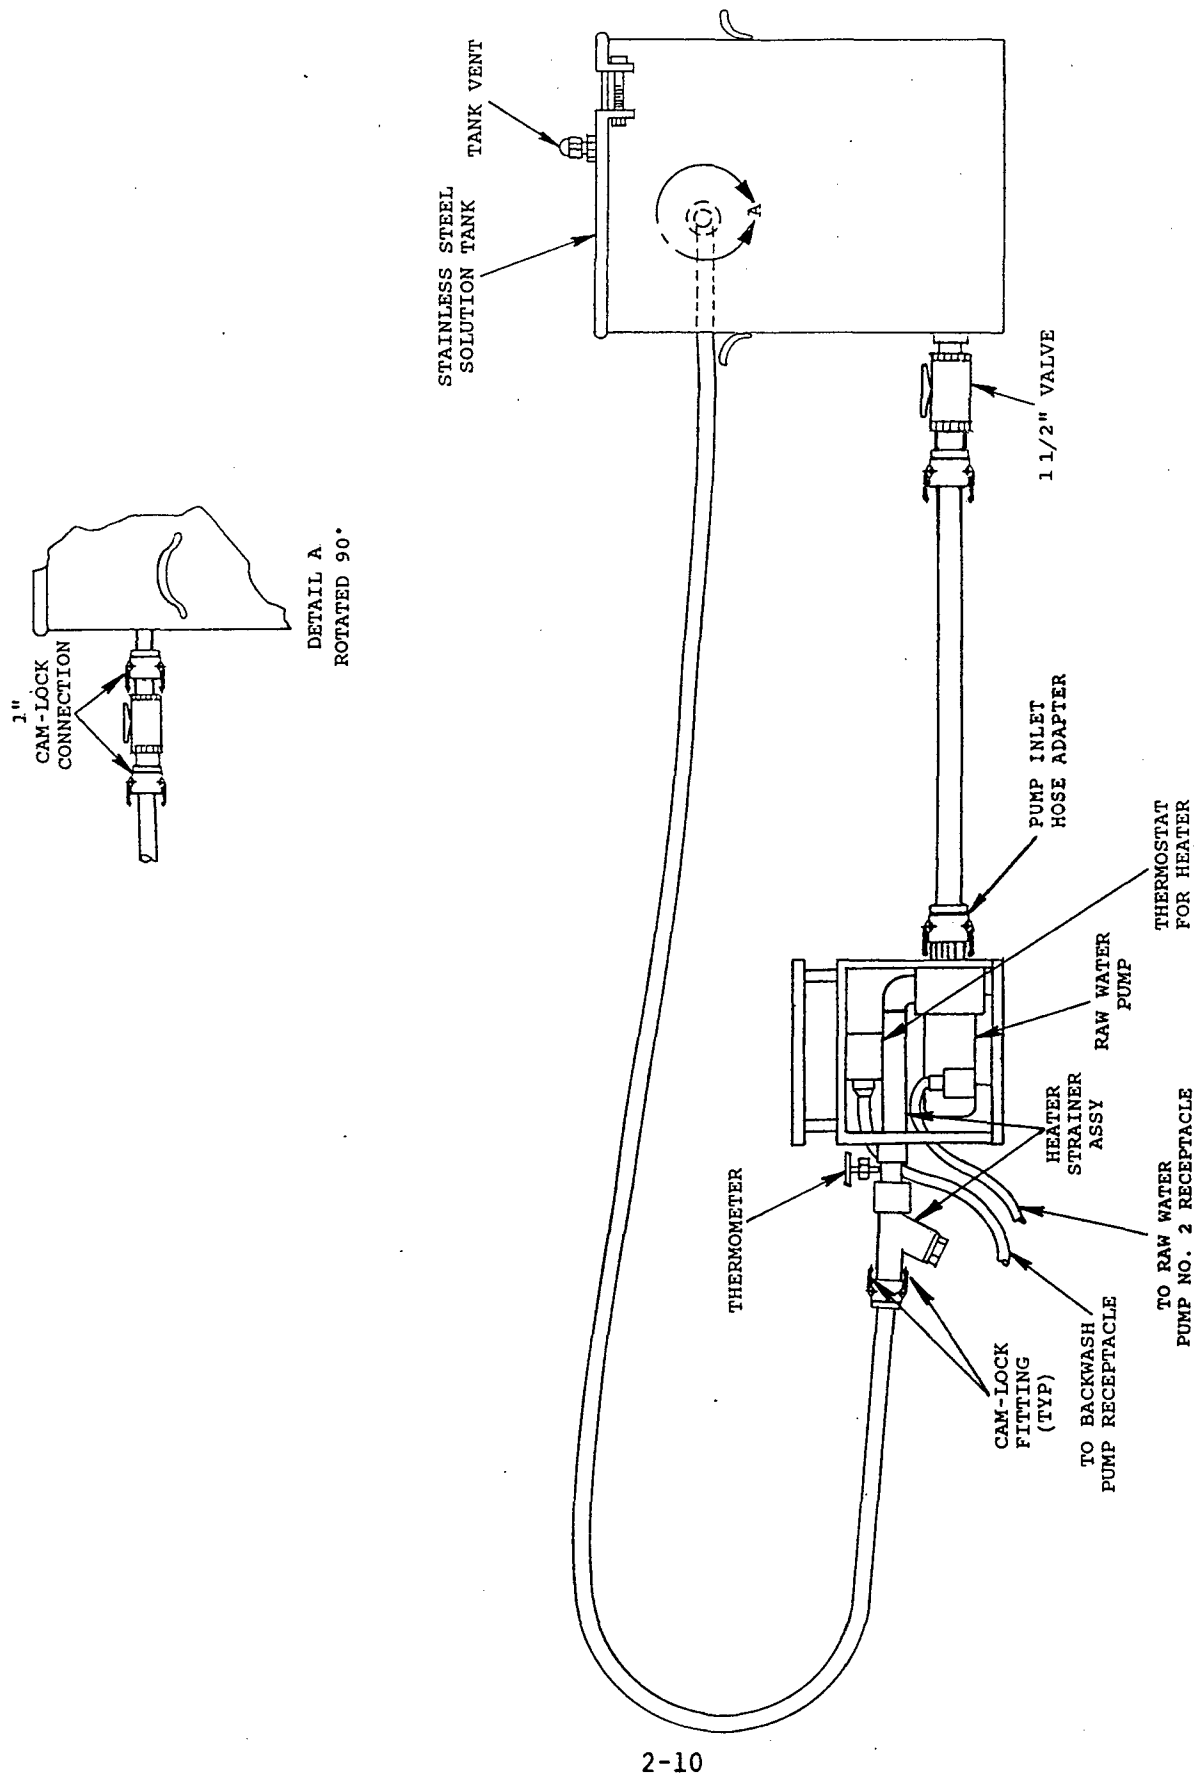

Figure 2-5. Mixing Cleaning Solution, Pump and Tank Configuration.
- f. Connect the 1 inch valve attached to the hose to the 1 inch connection on the side of the solution tank. Completed hook up is depicted in figure 2-5.